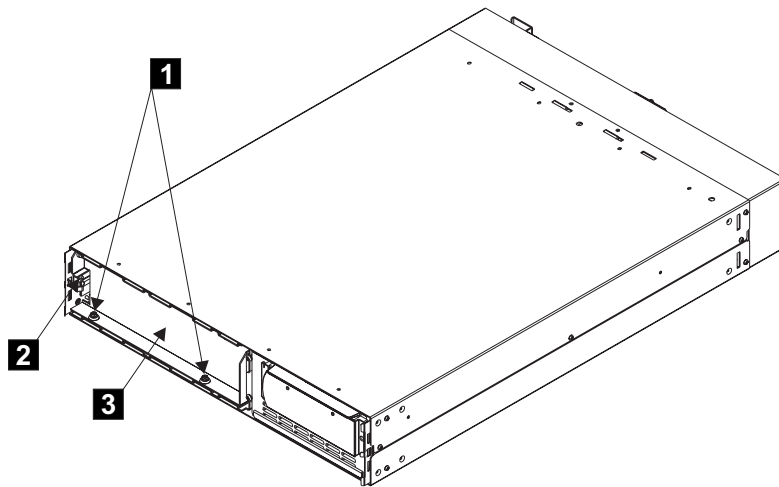

Figure 249. Fastening the battery retaining bracket
- a. Replace the battery retaining bracket (**3** in Figure 249).